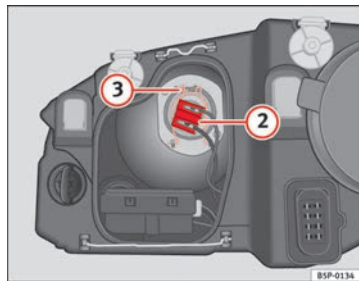

Fig. 185 Dipped beam headlights
- Remove the connector ⇒ fig. 185 ② from the bulb.
- Unclip the retainer spring ⇒ fig. 185 ③ pressing inwards to the right.